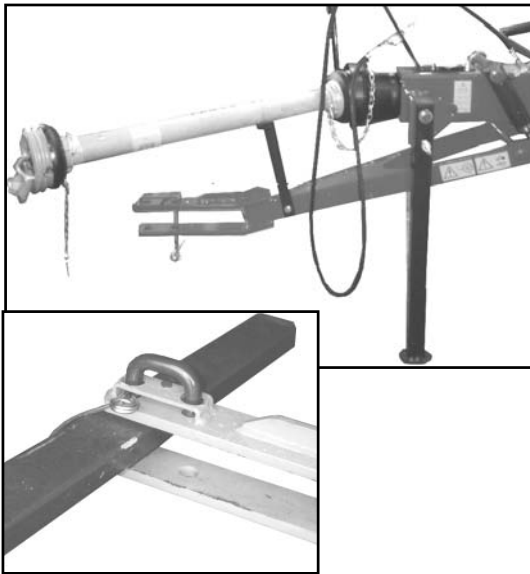

Figure 3-1
- Bottom link height: set to approx. 40 mm from the ground (figure 3-1).